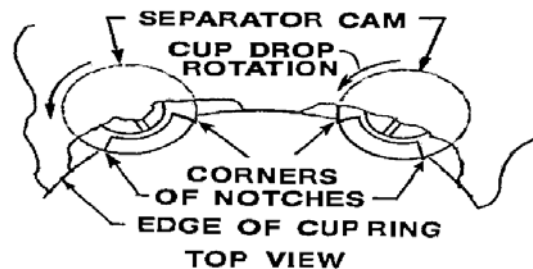

FIGURE 624
The Full Cycle Switch controls the cup drop motor [B5] by signaling the CDB to power off the cup drop motor at the homing position. If adjusted correctly the six cams should be homed in the proper stop position. Their shoulder surfaces should be fully exposed to accept and hold up the cup stack by the cup rims. The cams also have a top slicing edge that should be retracted away from the cup rims in stand-by (see Figure 624 below).
1. Check Adjustment - remove all cups from the cup ring. Look down at all six cams and verify that all the cam shoulder sections are facing to middle of cup ring opening. The left and right corner notches on the cams should be retracted back in stand-by as shown in Figure 624. If cams are out of position, perform following steps B & C: